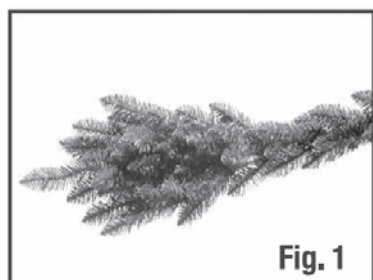

Fig. 1
Unfold a Metal Stand (B) and insert the Eye Bolt. Remove packing material from ends of Poles. Put Bottom Section Pole into Tree stand making sure it is seated properly (Figure 1). Tighten Eye Bolt.
1. Every tree style is shipped from the factory with the tips of each Branch compressed to the center(Figure 1).